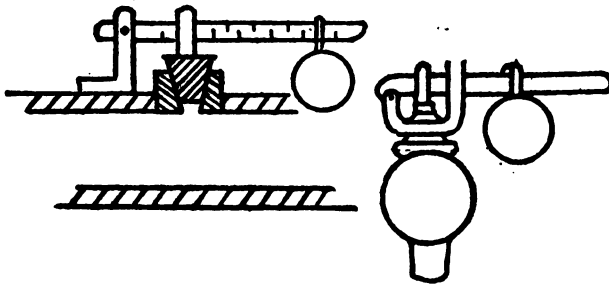

FIG. 52D.—HOW A SAFETY VALVE WORKS
(7) Every boiler must have a safety valve, so that the steam will blow off automatically before the pressure becomes dangerous. The safety valve for stationary engines is usually of the weight and lever type, as shown in Fig. 52D.